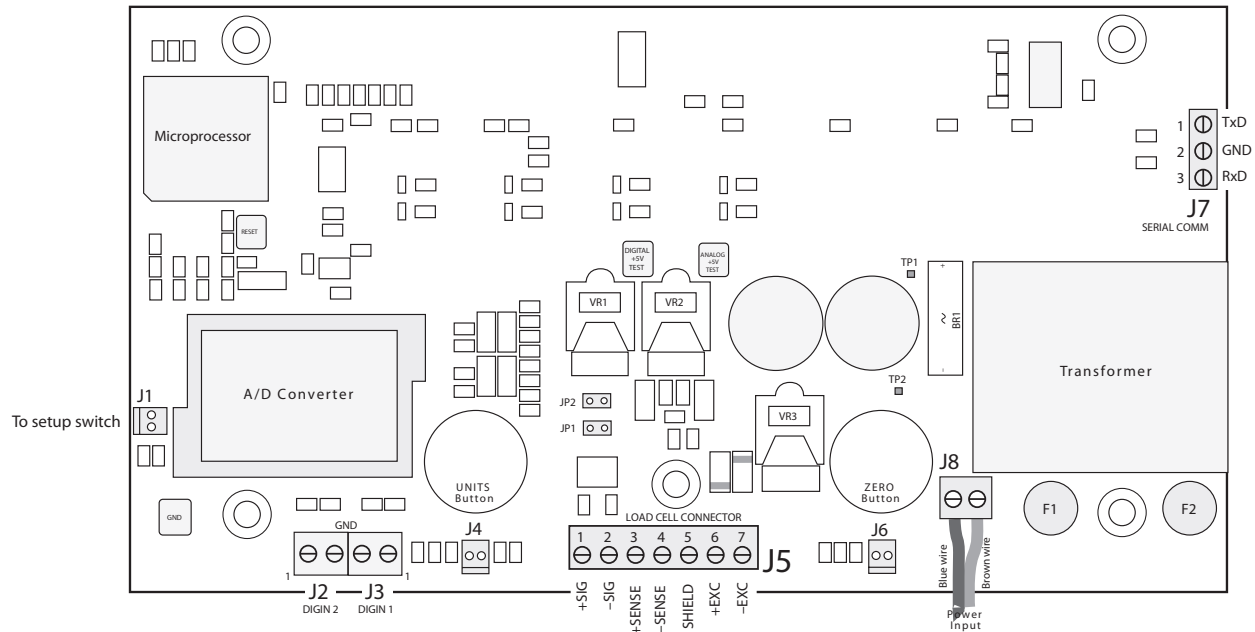

Figure 2-2. IQ plus 210 CPU and Power Supply Board
Wire the load cell cable from the load cell or junction box to connector J5 as shown in Table 2-2. If using 6-wire load cell cable (with sense wires), remove jumpers JP1 and JP2 (see Figure 2-2). For 4-wire installation, leave jumpers JP1 and JP2 on.
The load cell compensation jumper (above the ZERO button location on the CPU board; see Figure 2-2) must be set for the type of load cell connected to the indicator:
- Remove connections to J5 (load cell cable), J7 (serial communications), J2 and J3 (digital inputs), J4 and J6 (piezo button inputs), and J1 (setup switch). Remove blue and brown power input wires at J8. See Figure 2-2 on page 5 for connector locations.